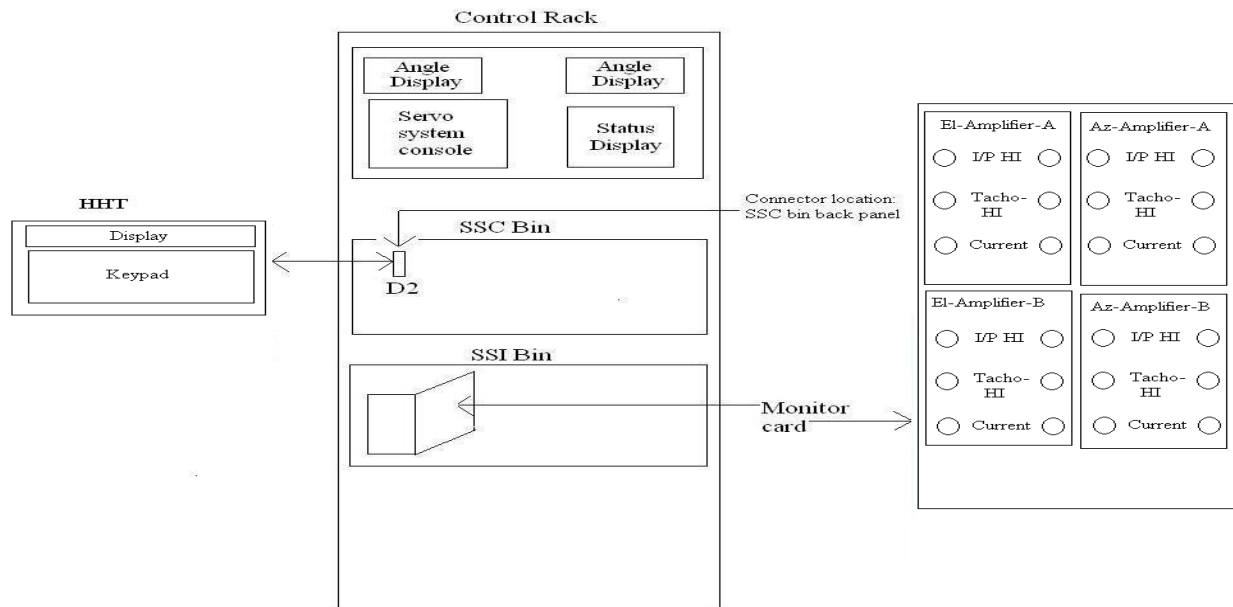

Figure1: Motor run test setup
1. Antenna setup is as shown in Figure1